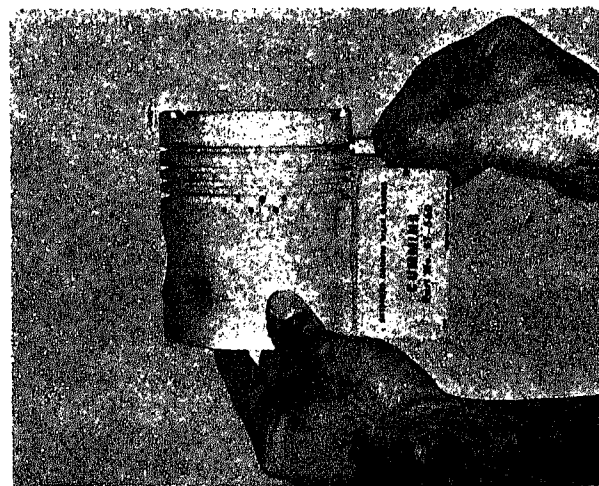

Fig. 1-9-2. Checking ring groove wear
2. After cleaning, check top and second ring grooves with S-560 Ring Groove Wear Check. Fig. 1-9-2.